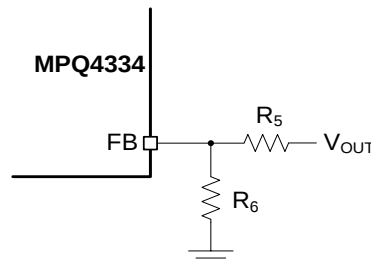

Figure 12: Feedback Divider Network for an Adjustable-Output Version
For an adjustable-output version, the feedback (FB) voltage (V_{FB}) is typically 0.8V. The external resistor divider connected to FB (R_6) sets V_{OUT} (see Figure 12).